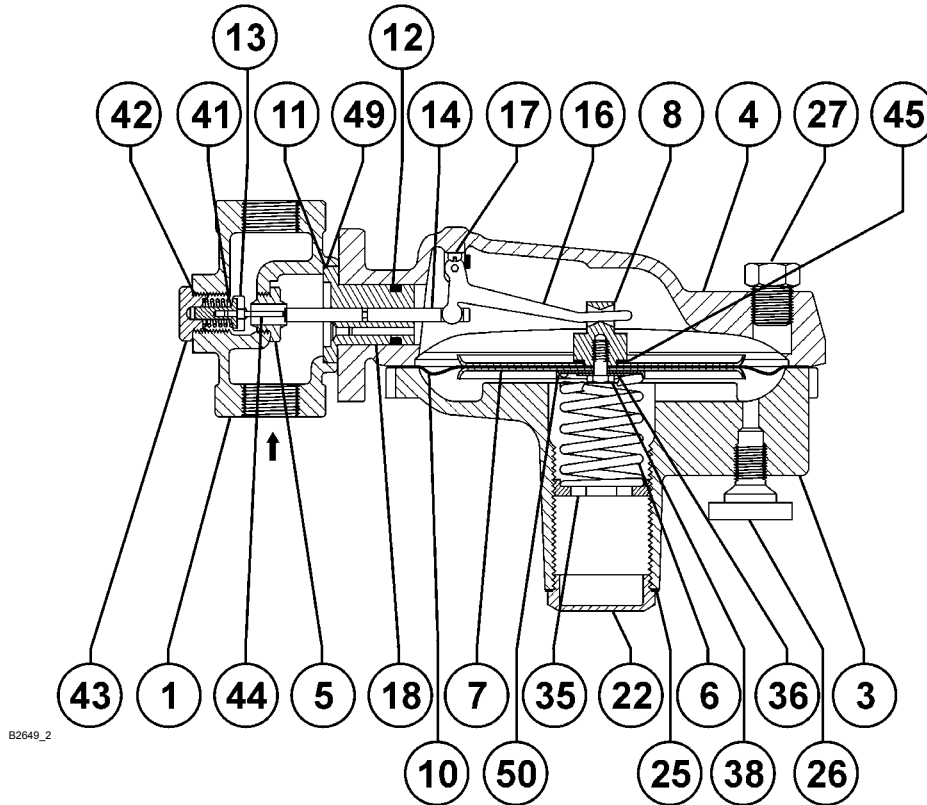
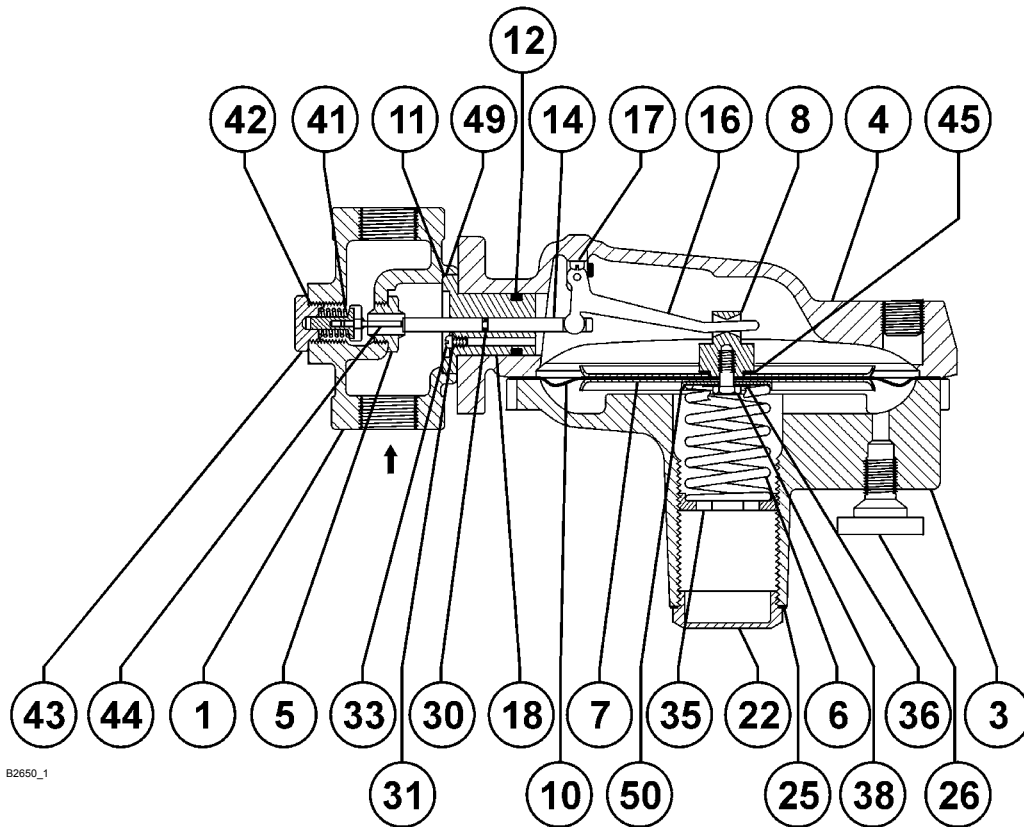

Figure 3. Type Y695A Assembly
Figure 5. Type Y695AM Assembly
- Install the regulator using a straight run of pipe the same size or larger as the regulator body. Flow through the regulator body is indicated by the flow arrow attached to the body. If a block valve is required, install a full flow valve between the regulator and the blanketed vessel. For proper operation, the regulators should be installed with the spring case barrel pointed down. Key numbers referenced in this section are shown in Figures 3, 4, and 5.
With installation completed, the regulator can be placed in operation by slowly opening the upstream and downstream block valves, if used, while using gauges to monitor pressure. The regulator has been adjusted at the factory to provide approximately the pressure requested. The range of allowable pressure settings is stamped on the nameplate. If a pressure setting beyond the stamped range is required, install a spring with the desired range by following the procedures for changing the spring in the Maintenance section. To adjust the pressure setting, perform the following steps (key numbers are referenced in Figures 3 and 5):
This procedure is for gaining access to the disk assembly, orifice, and body seal O-ring. All pressure must be released from the regulator, before the following steps can be performed. Key numbers are referenced in Figures 3, 4, and 5.
1. To inspect and replace the disk assembly (key 13) remove the body cap assembly (key 43).
2. Remove the disk assembly (key 13) from the disk spacer (key 44) and replace if necessary.
3. To inspect the orifice (key 5, Figures 3 and 5) on Types Y695A and Y695AM or throat seal (key 31, Figure 5) and machine screw (key 33, Figure 5) on the Type Y695AM, remove the cap screws (key 2) and separate the diaphragm case assembly (key 4) from the body (key 1).
4. Remove and inspect the body seal O-ring (key 11) and the backup ring (key 49). Replace if damaged.
5. For a Type Y695AM (Figure 5), inspect the throat seal O-ring (key 31) by removing the machine screw (key 33). Replace if necessary. To install a throat seal, place the O-ring on the machine screw and thread into guide insert (key 18) to seal.
6. Inspect and replace the orifice (key 5) if necessary. Lightly lubricate the threads of the replacement orifice. Install with 29 to 37 foot-pounds (39 to 50 N•m) of torque.
7. Install the backup ring (key 49) into the body (key 1). Next place the body seal O-ring (key 11) into the body. See Figure 5.
This procedure is for gaining access to the control spring, diaphragm, and lever assembly stem. All pressure must be released from the diaphragm case assembly before performing the following steps. Key numbers are referenced in Figures 3, 4, and 5.
Use this procedure to gain access to the control spring, diaphragm assembly, valve stem, and stem O-ring. All pressure must be released from the diaphragm case assembly before performing these steps. Key numbers are referenced in Figures 3, 4, and 5.
1. Remove pipe plug (key 27) from the diaphragm casing (key 4).
3. Insert the throat seal O-ring (key 31, Figure 5) and machine screw (key 33, Figure 5).
4. Insert the stem seal O-ring (key 30) by following steps 1 through 6 and 8 through 11 in the Diaphragm and Spring Case Area Maintenance section.
1. Insert pipe plug (key 27) in the diaphragm casing (key 4).
2. Follow steps 1 through 6 and 8 through 11 in the Diaphragm and Spring Case Area Maintenance section to remove the stem seal O-ring (key 30, Figure 5).
- Follow steps 1 through 5 of Body Area Maintenance to remove the throat seal (key 31, Figure 5) and machine screw (key 33, Figure 5).